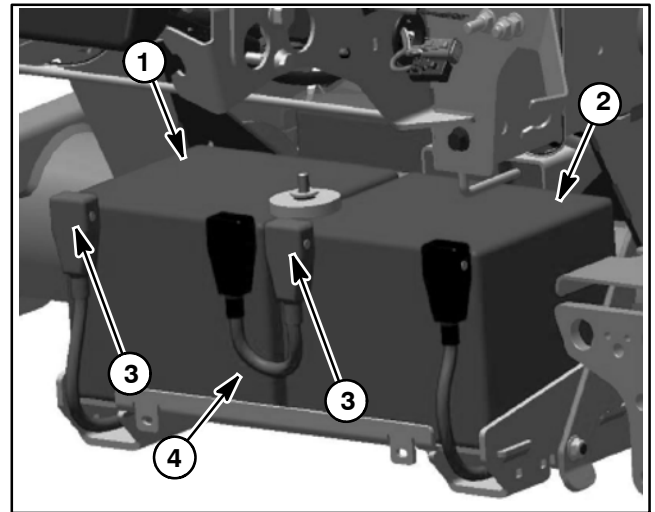

Figure 86
6. Install all of the battery cables except the battery jumper cable (item 16). Make sure that cables are connected to correct battery terminal noting battery polarity as shown in Figures 86 and 87. Torque nuts on battery cable clamps from **50 to 70 in-lb (5.7 to 7.9 N-m)**.
7. Carefully install battery jumper cable (item 16) to front batteries. Do not allow tools or vehicle components to complete the battery circuit during cable installation. Torque nuts on battery jumper cable clamps from **50 to 70 in-lb (5.7 to 7.9 N-m)**.